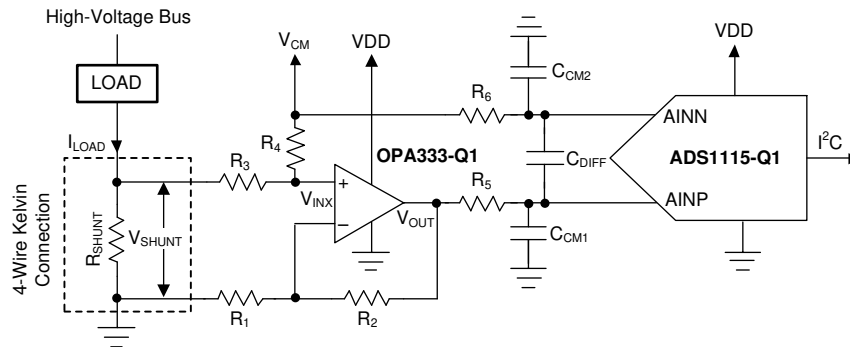

Figure 9-6. Low-Side Current Shunt Monitoring
Shunt-based, current-measurement solutions are widely used to monitor load currents. Low-side, current-shunt measurements are independent of the bus voltage because the shunt common-mode voltage is near ground. Figure 9-6 shows an example circuit for a bidirectional, low-side, current-shunt measurement system. The load current is determined by measuring the voltage across the shunt resistor that is amplified and level-shifted by a low-drift operational amplifier, OPA333-Q1. The OPA333-Q1 output voltage is digitized with ADS1115-Q1 and sent to the microcontroller using the I²C interface. This circuit is capable of measuring bidirectional currents flowing through the shunt resistor with great accuracy and precision.
- To level-shift the ground-referenced signal to allow bidirectional current measurements while running off a unipolar supply. The voltage across the shunt resistor, V_{SHUNT} , is level-shifted by a common-mode voltage, V_{CM} , as shown in Figure 9-6. The level-shifted voltage, V_{INX} , at the noninverting input is given by Equation 5.
A shunt resistor (R_{SHUNT}) is an accurate resistance inserted in series with the load as shown in 图 9-6. If the absolute voltage drop across the shunt, $|V_{SHUNT}|$, is a larger percentage of the bus voltage, the voltage drop can reduce the overall efficiency and system performance. If $|V_{SHUNT}|$ is too low, measuring the small voltage drop requires careful design attention and proper selection of the ADC, operation amplifier, and precision resistors. Make sure that the absolute voltage at the shunt terminals does not result in violation of the input common-mode voltage range requirements of the operational amplifier. The power dissipation on the shunt resistor increases the temperature because of the current flowing through the resistor. To minimize the measurement errors resulting from variation in temperature, select a low-drift shunt resistor. To minimize the measurement gain error, select a shunt resistor with low tolerance value. To remove the errors caused by stray ground resistance, use a four-wire Kelvin-connected shunt resistor, as shown in 图 9-6.